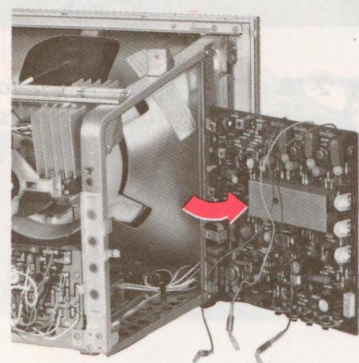

Fig. 2-21. CD-board swung out for access to components
3. Swing the CD board to the front as shown in Fig. 2-21.